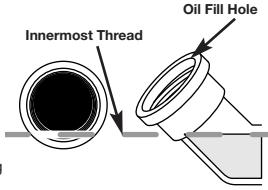

Fig. 17
5. Look into the oil fill hole (use a flashlight if needed). The oil should be just touching the innermost thread (Fig. 17).
6. If the oil level is not touching the innermost thread on the oil fill hole, add a small amount of oil to the oil fill hole and recheck (Fig. 17). Repeat this procedure until the oil level reaches the innermost thread on the oil fill hole.